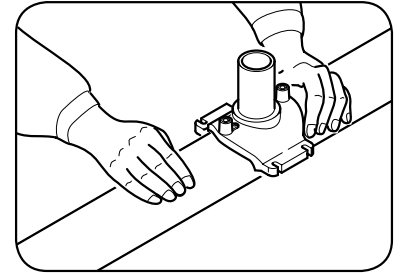

FIG. 1
- 3 Apply the saddle on to the pipe watching out not to dirty the previously cleaned surfaces (see fig.1).